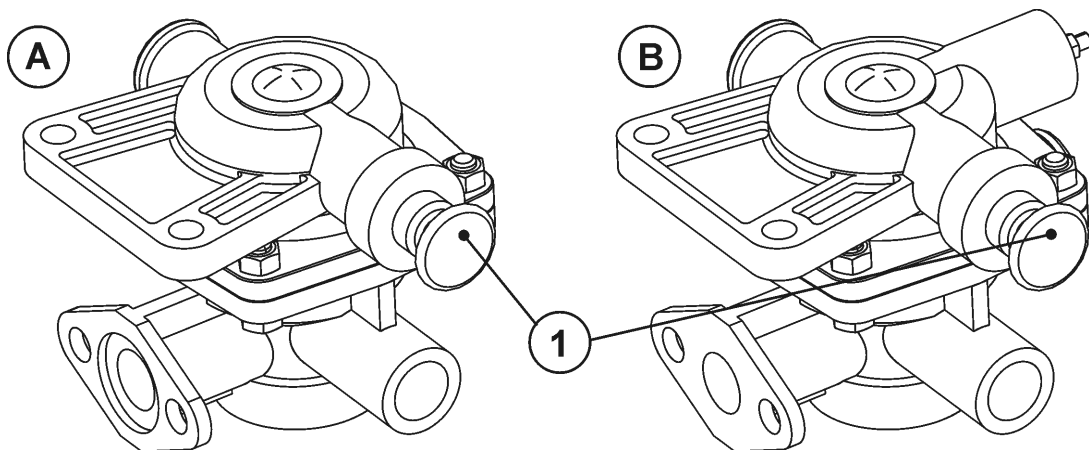

FIG. 11.
Depending on version of the pneumatic system the trailer can be fitted with one of two types of control valves shown on the Fig. 11. The purpose of the valve is to activate the trailer brakes simultaneously with activation of tractor brakes. Additionally, in the case of accidental disconnection of the conduit between the trailer and the tractor the control valve activates the trailer brake automatically. Applied valves are fitted with a brake release system (1), used when the trailer is disconnected from the tractor. When the air conduits are connected to the tractor the brake release systems switches over to the position enabling normal operation of brakes.